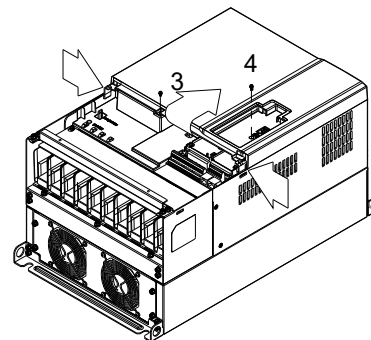

Figure 2
2. (Figure 2) Loosen screw 3, press the tab on the right and the left to remove the cover. Screw 3, 4 Torque: 6~8 kg-cm / [5.2~6.9 lb-in.] / [0.6~0.8 Nm]